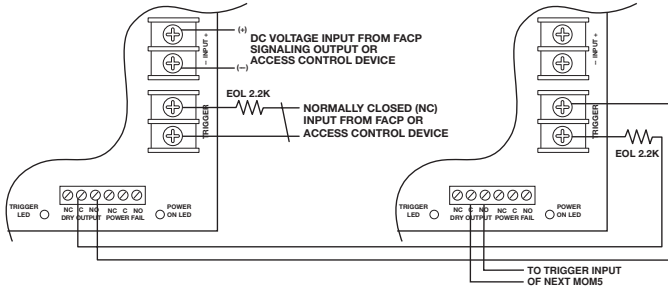

Fig. 3
9. Connect trouble reporting device to the terminals marked [POWER FAIL]. Connect to the [NO & C] for normally open and [NC & C] for normally closed output (Fig. 3 - 7, pgs. 3 - 4). This relay will switch when power is lost to the MOM5.